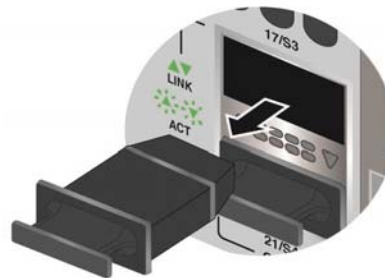

Figure 70. Removing the Dust Cover from a QSFP+ Transceiver Slot
1. Remove the dust cover from QSFP+ slot 17 or 21. Refer to Figure 70 on page 119.
1. Remove the dust cover from a QSFP+ slot in the switch. Figure 70 shows the removal of the dust cover from slot 17.